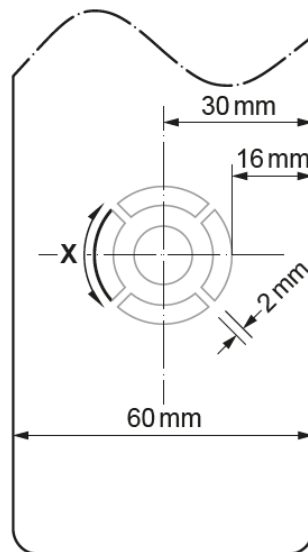

Fig. 2.2
Fig. 2.2 shows a CAD diagram of the central buttons in the lower part of the remote control. Arc X is part of the outer circumference of a circular array of four identical buttons.
- (e) Using the diagram in Fig. 2.2, calculate the length of arc X in mm to 2 decimal places. Show your working.